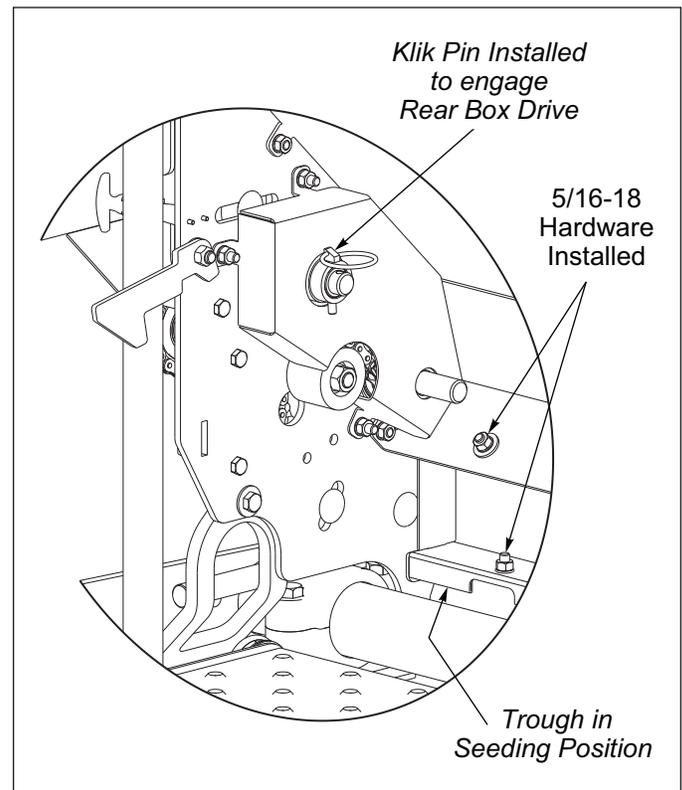

Figure 3-18: Trough in the Seeding Position
10. Re-Install Calibration Trough in Seeding Position. **See Figure 3-18.**
8. Re-Install Calibration Trough in Seeding Position. **See Figure 3-18.**